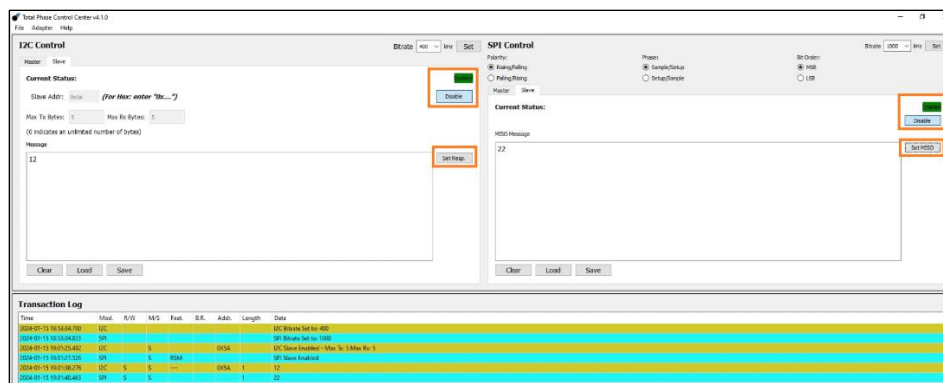

Figure 7.52. Total Phase – I2C and SPI Control Enabled
9. Once you enabled both the I2C and SPI control, the display looks similar to Figure 7.52 and the connection status shows in the transaction log.
10. Update the Message in the I2C control window and click **Set Resp**. Update the MISO Message in the SPI control window and click **Set MISO** as shown in Figure 7.52.